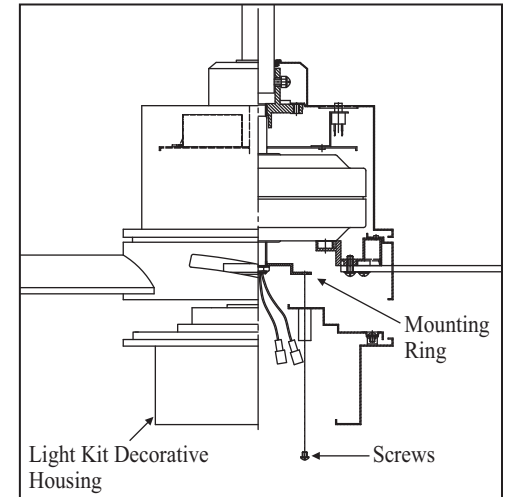

Figure 16
2. Place the key holes on the light kit decorative housing over the 2 screws previously loosened from the mounting ring, turn light kit decorative housing until it locks in place at the narrow section of the key holes. Secure by tightening the 2 screws previously loosened and the one previously removed. (Fig. 16)